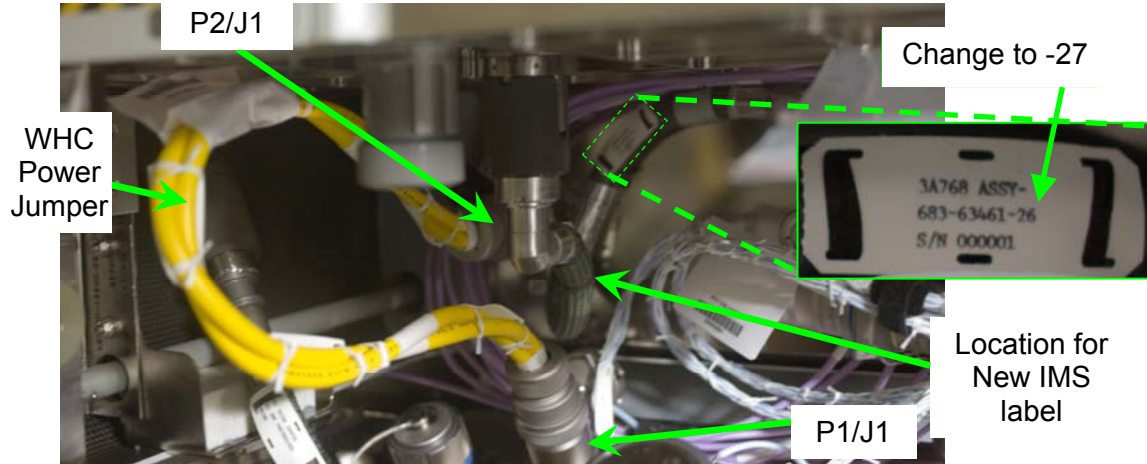

Figure 7.- Location for New IMS Label and WHC Power Jumper.
- 4.3 Apply new Node 3 WHC Flush Water Jumper IMS Label on WHC Flush Water Jumper close to end (Clear Tape). Refer to Figure 7.
- 4.4 Modify part number of WHC Flush Water Jumper from “-26” to “-27” located on existing assembly part number tag (Sharpie). Refer to Figure 7.
Refer to Figure 7.